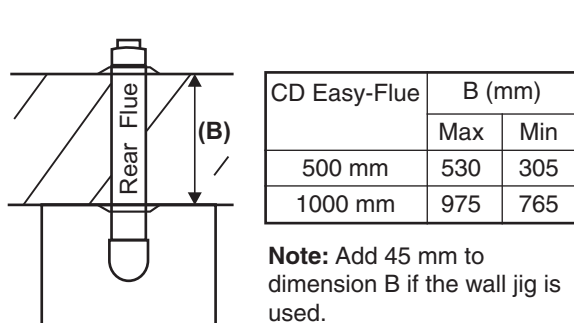

Fig. 5.7b
- When the flue length required is more than the maximum stated in Section 4.6, paragraph 1, refer to the table below and Figs 5.7b and 5.8b.